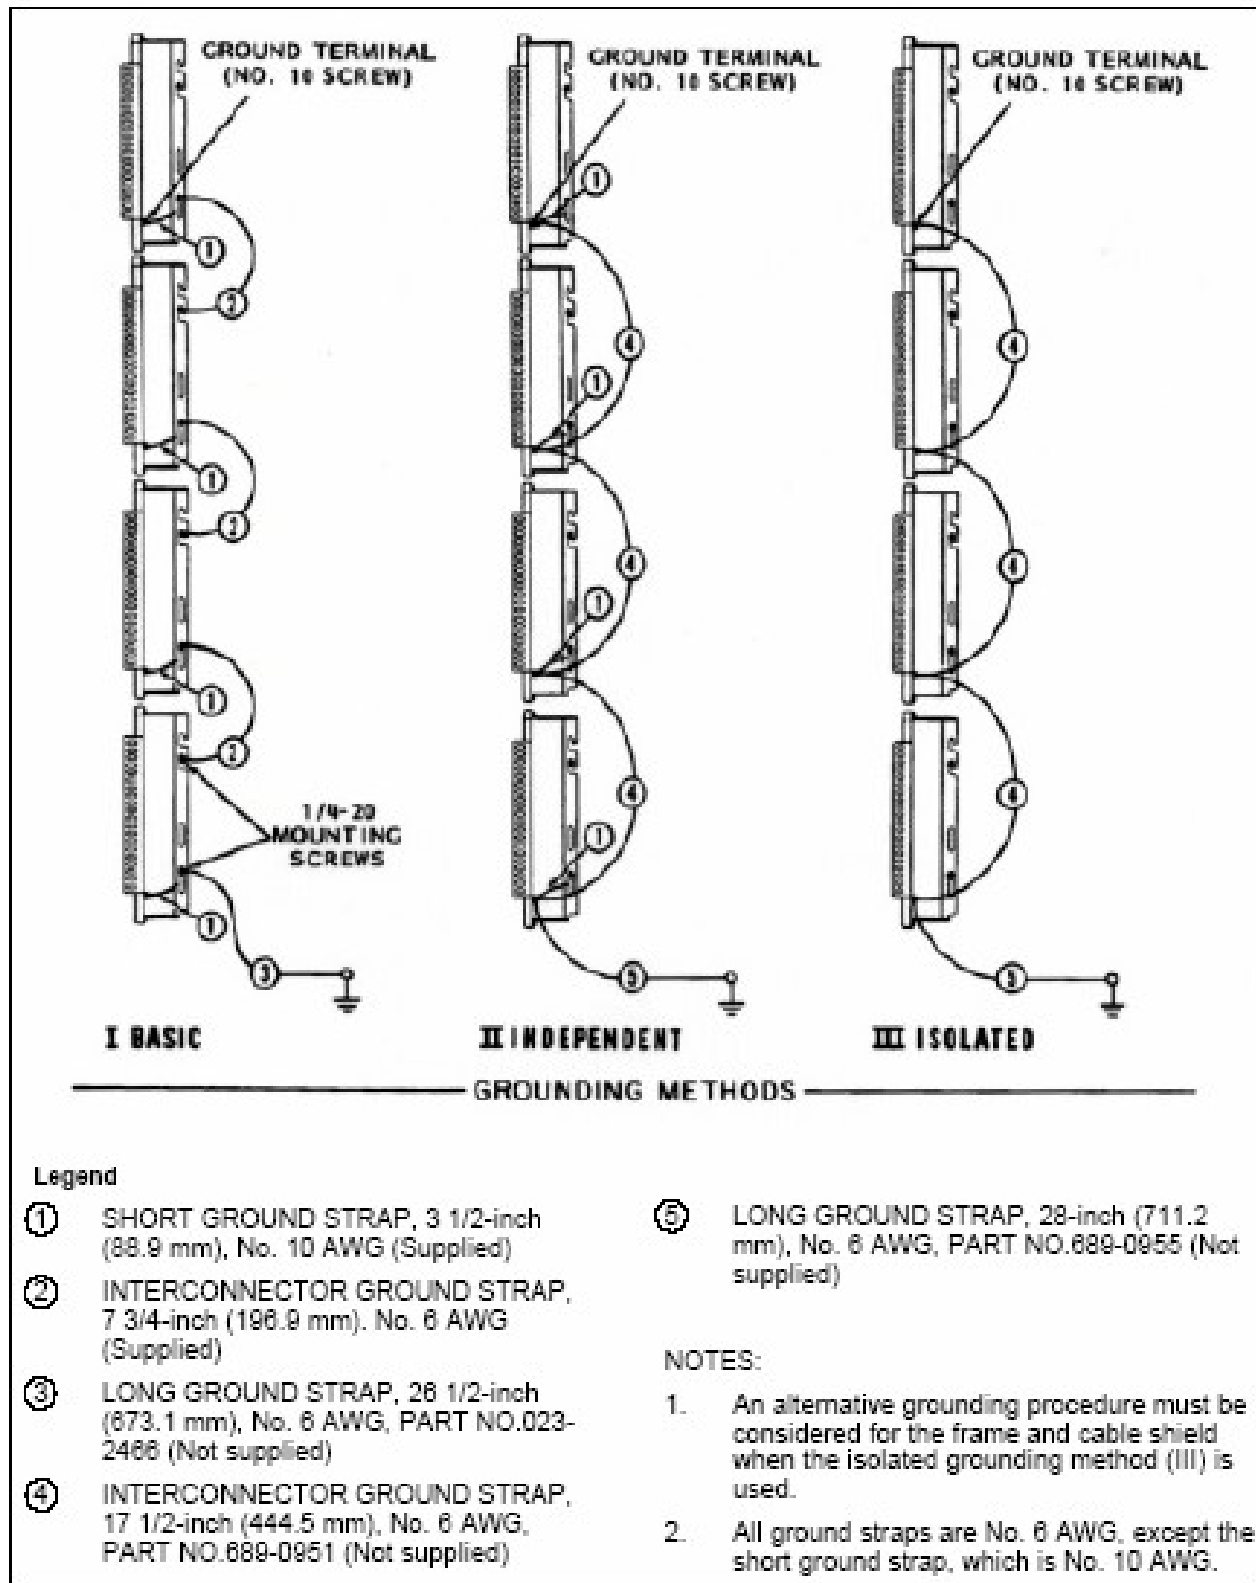

Figure 5 — C(G)-310 Connector Grounding Methods
5.2 Basic grounding method: Use the 7 3/4-inch interconnector ground strap supplied with the unit to connect the 1/4-20 mounting screws on adjacent connectors (see I Basic, Figure 5). Repeat this procedure for each pair of connectors on the same vertical. Connect the bottom 1/4-20 mounting screw on the lowest connector to a 1/4-20 terminal on the main frame copper ground bar using the long (26 1/2-inch) ground strap.
5.3 Independent ground method: Use the interconnector ground strap (17 1/2 inches long) to connect the no. 10 ground screw terminals of each pair of adjacent connector bases on the same vertical (see II Independent, Figure 5). Connect the no. 10 ground screw ground terminal on the lowest connector to the 1/4-20 terminal on the main frame copper ground bar using the long (28-inch) ground strap.
5.4 Isolated ground method: Remove the short (3 1/2-inch) ground strap from the no. 10 screw ground terminal and the connector mounting bracket. Use the interconnector ground strap (17 1/2-inch) to connect the no. 10 screw ground terminals of each pair of adjacent connector bases on the same vertical (see III Isolated, Figure 5). Connect the no. 10 screw ground terminal on the lowest connector to the 1/4-20 terminal on the main frame copper ground bar using the long (28-inch) ground strap.